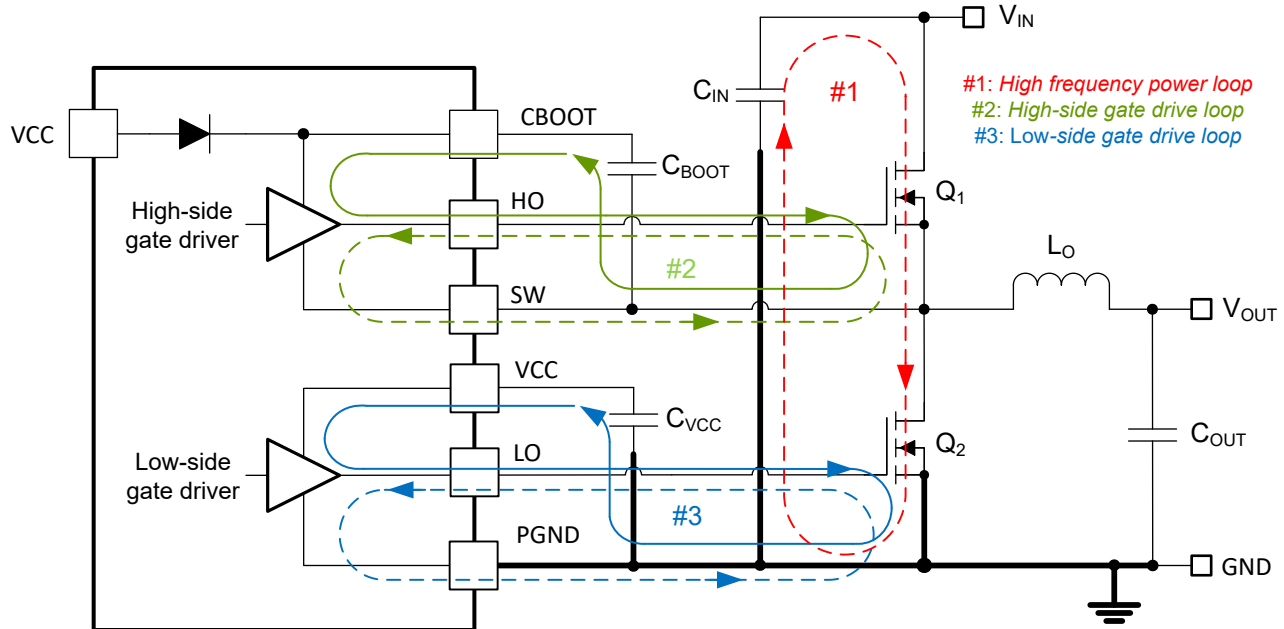

图 9-47. DC/DC Regulator Ground System With Power Stage and Gate Drive Circuit Switching Loops
Proper PCB design and layout is important in a high-current, fast-switching circuit (with high current and voltage slew rates) to achieve a robust and reliable design. As expected, certain issues must be considered before designing a PCB layout using the LM5149. The high-frequency power loop of a buck regulator power stage is denoted by loop 1 in the shaded area of 图 9-47. The topological architecture of a buck regulator means that particularly high di/dt current flows in the components of loop 1, and it becomes mandatory to reduce the parasitic inductance of this loop by minimizing its effective loop area. Also important are the gate drive loops of the high-side and low-side MOSFETs, denoted by 2 and 3, respectively, in 图 9-47.
- Loop 1: The most important loop area to minimize is the path from the input capacitor or capacitors through the high- and low-side MOSFETs, and back to the capacitor or capacitors through the ground connection. Connect the input capacitor or capacitors negative terminal close to the source of the low-side MOSFET (at ground). Similarly, connect the input capacitor or capacitors positive terminal close to the drain of the high-side MOSFET (at VIN). Refer to loop 1 of 图 9-47.
5. The SW pin connects to the switch node of the power conversion stage and acts as the return path for the high-side gate driver. The parasitic inductance inherent to loop 1 in 图 9-47 and the output capacitance ( $C_{OSS}$ ) of both power MOSFETs form a resonant circuit that induces high frequency (greater than 50 MHz) ringing at the SW node. The voltage peak of this ringing, if not controlled, can be significantly higher than the input voltage. Make sure that the peak ringing amplitude does not exceed the absolute maximum rating limit for the SW pin. In many cases, a series resistor and capacitor snubber network connected from the SW node to GND damps the ringing and decreases the peak amplitude. Provide provisions for snubber network components in the PCB layout. If testing reveals that the ringing amplitude at the SW pin is excessive, then include snubber components as needed.
- Loop 2: high-side MOSFET,  $Q_1$ . During the high-side MOSFET turn-on, high current flows from the bootstrap (boot) capacitor through the gate driver and high-side MOSFET, and back to the negative terminal of the boot capacitor through the SW connection. Conversely, to turn off the high-side MOSFET, high current flows from the gate of the high-side MOSFET through the gate driver and SW, and back to the source of the high-side MOSFET through the SW trace. Refer to loop 2 of Figure 9-47.
- Loop 3: low-side MOSFET,  $Q_2$ . During the low-side MOSFET turn-on, high current flows from the VCC decoupling capacitor through the gate driver and low-side MOSFET, and back to the negative terminal of the capacitor through ground. Conversely, to turn off the low-side MOSFET, high current flows from the gate of the low-side MOSFET through the gate driver and GND, and back to the source of the low-side MOSFET through ground. Refer to loop 3 of Figure 9-47.